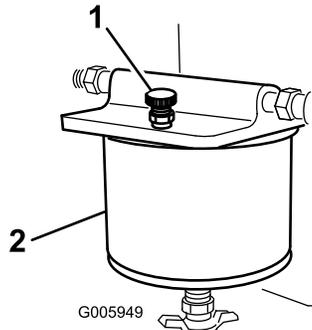

Figure 32
3. Open the bleed screw on top of the fuel filter to fill the bowl with fuel (Figure 32).